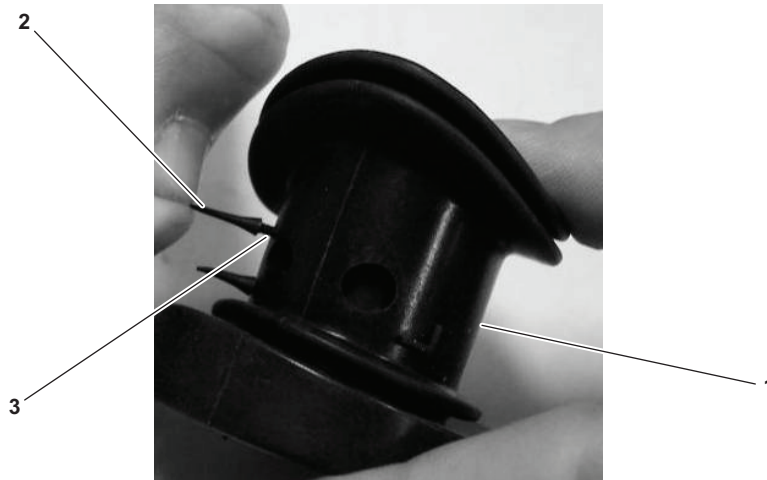

Figure 6-19. AV-3000® Inhalation Check Valve Installation
- (4) From inside of the voicemitter duct (figure 6-19, item 1), insert both inhalation check valve tips (figure 6-19, item 2) into the small holes of the voicemitter duct.
- (5) From outside of the voicemitter duct, gently pull the inhalation check valve tips (figure 6-19, item 2) until the stems (figure 6-19, item 3) are seated.
- (6) Trim the excess check valve tips (figure 6-19, item 2) as required.